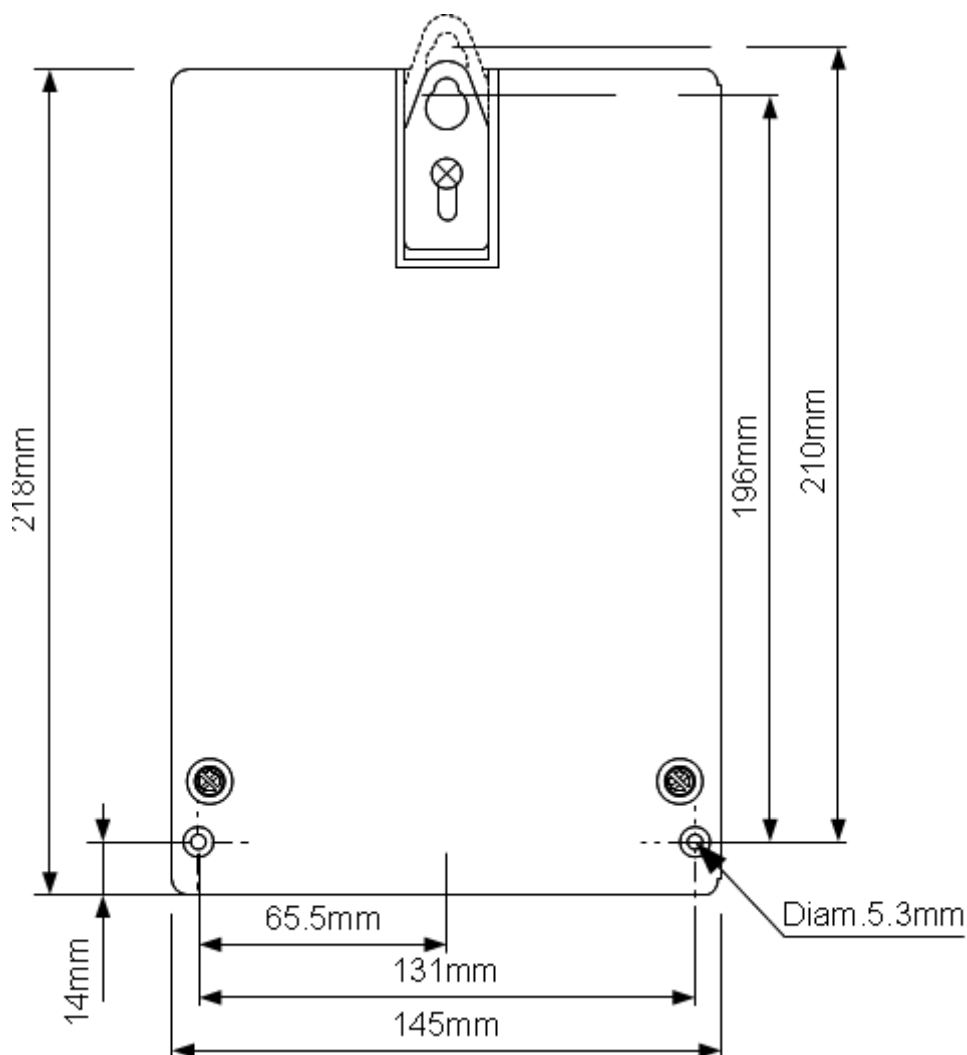

Fig.4.1 Meter Backside view
The meter should be mounted on the meter board or similar devices provided for this purpose. The meter has one hook on the top backside of the meter's lower case and two mounting holes in the terminal block, see Fig 4.1.
2. Set the meter hook in desired position and fix it by a screw .The hook on the meter's backside can be moved up and down as shown on Fig 4.1.